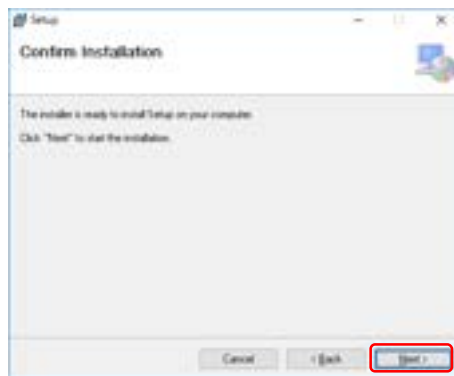

Fig 4-6 Confirm Installation screen
8) The dialogue such like Fig. 4-6 is displayed. Click “Next”